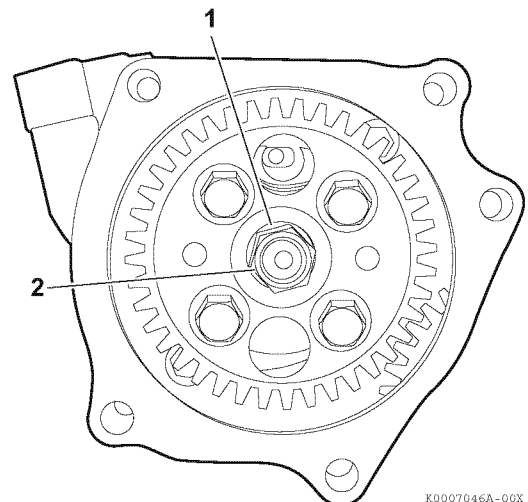

Figure 7-15
5. Install the fuel injection pump drive gear lock washer (Figure 7-15, (1)) and nut (Figure 7-15, (2)). Do not lubricate threads of the nut or shaft. Hold the crankshaft pulley bolt with a wrench and tighten the pump drive gear nut to the specified torque. See *Special Torque Chart* on page 7-6.